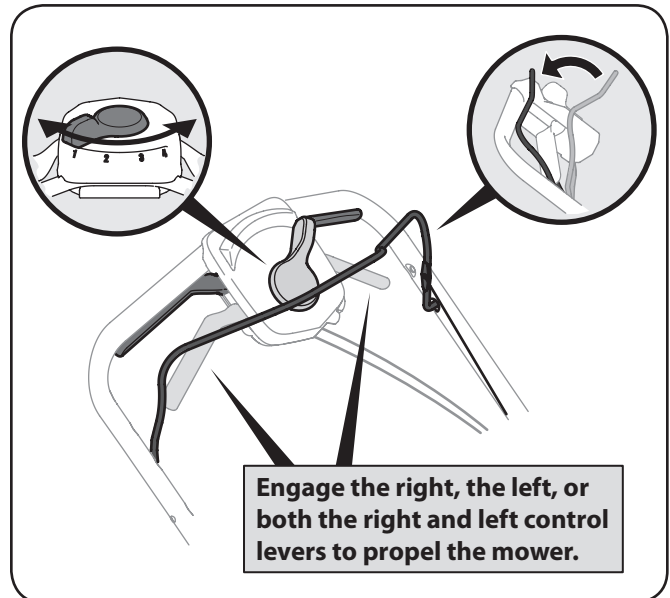

Figure 5-2
1. Once the engine is running and while continuing to hold the blade control down, squeeze either (or both) drive controls against the upper handle to propel mower. See Figure 5-2.